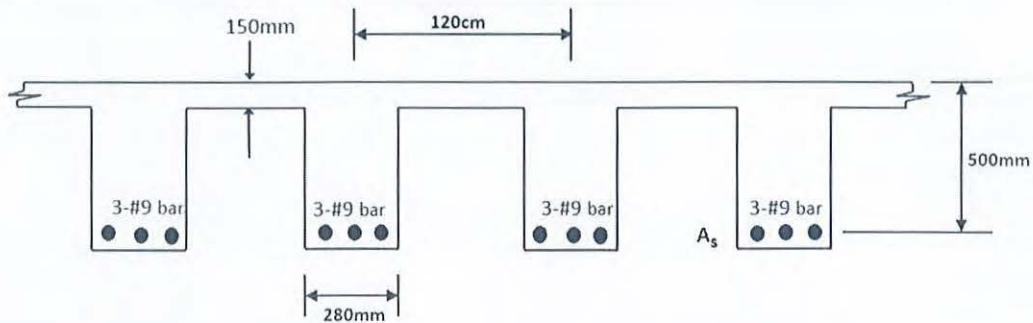

Figure:2
4. A floor system, shown in Figure 2 consists of a 150mm concrete slab supported by continuous T beams of 8m span (simply supported). Cross section of the beams 280mm x 500mm as shown in Figure 2. At mid span, there are 3#9 bars at the bottom. Analyze the T-beam for flexure and calculate the nominal and design positive moment capacity of the beam at mid span. Given: $f_c' = 28$ MPa, $F_y = 420$ MPa. (12)